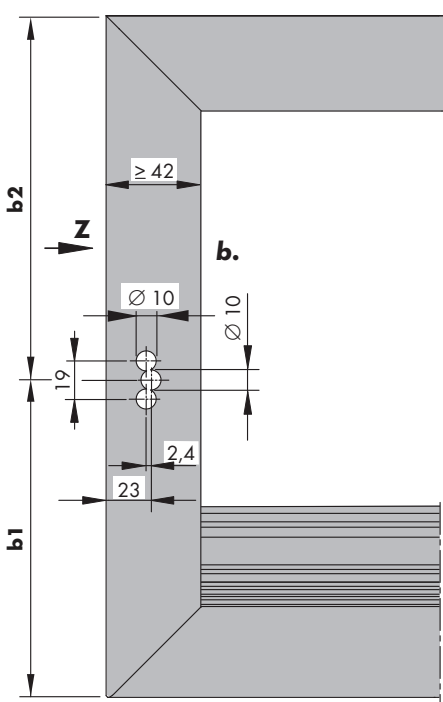

Figure 1
- b.** Perform section processing for handle Globe RR (Figures 1+2).